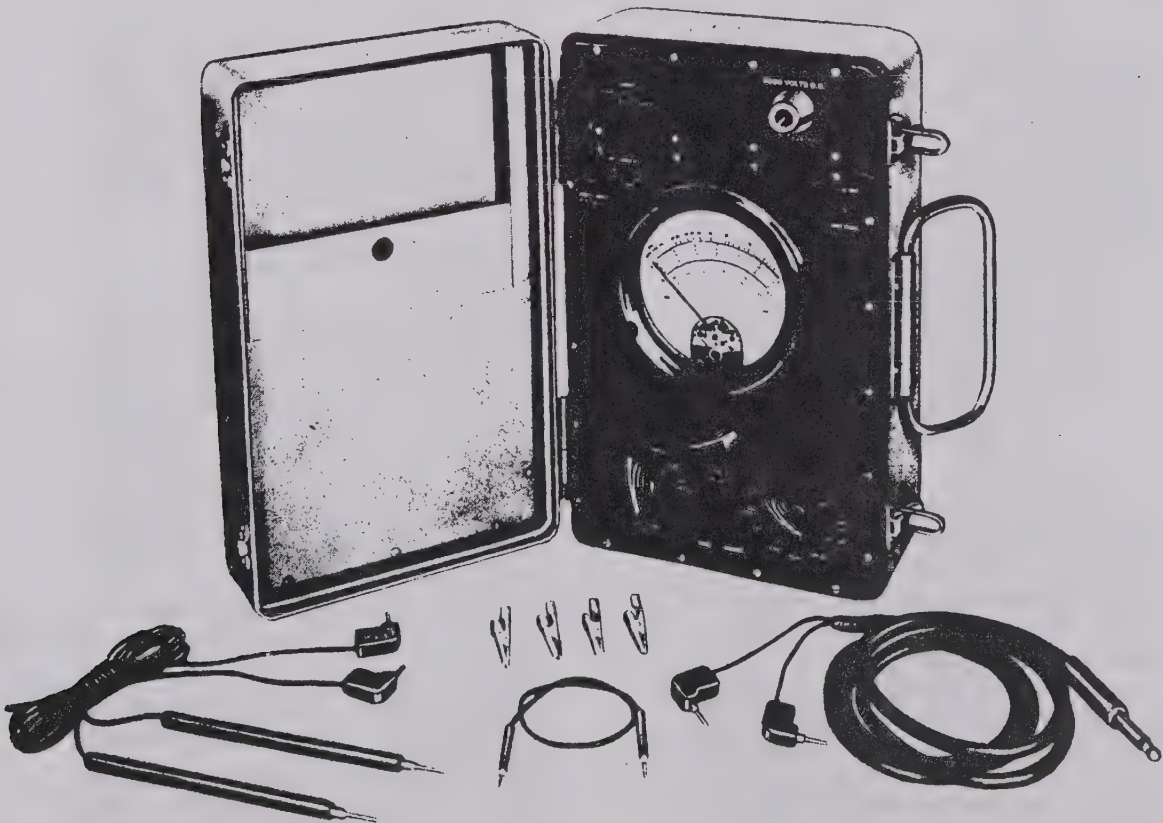

Figure 45. Portable volt-ohm-milliammeter used in measurement of a-c and d-c voltages, direct current, and resistance.
a. A multimeter is an instrument incorporating two or more meter circuits and a meter movement in a single case. A typical multimeter (fig. 45) contains voltmeter, ammeter, and ohmmeter circuits using a single meter movement. They may, however, be designed for many specific applications, such as measuring both resistance and capacitance, a-c voltam-